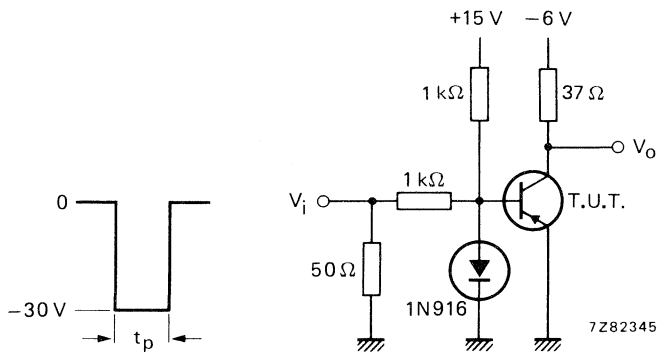

Fig. 4 Turn-off switching time test circuit.
- to cut-off with $+I_{BM} = 15 \text{ mA}$ (see Fig. 4)